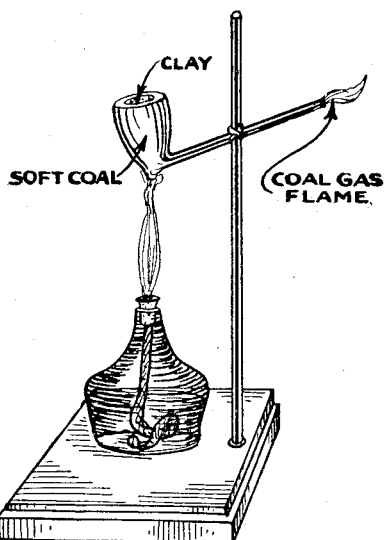

FIG. 143.—A Miniature Gas Works.
**How to Make Coal Gas.** Take a clay pipe and fill it with powdered soft coal and then close up the mouth of it with a piece of clay. Now heat the pipe in the flame of your alcohol lamp, or, better, because it is hotter, your Bunsen burner, and the hydrogen (*H*) will be driven out, and this you can light at the end of the stem, as shown in Fig. 143. When all the gas has passed out, you will find a little lump of hard, black porous matter in the pipe bowl, and this is coke, while the sticky substance that remains is coal-tar.